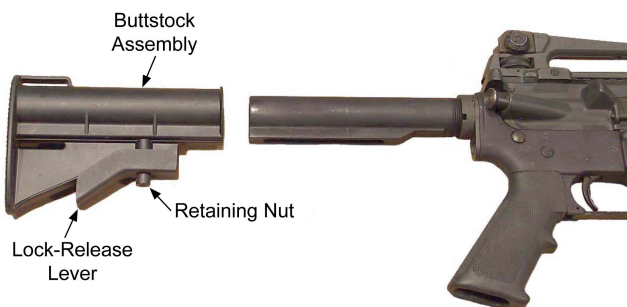

Figure 2-3. M4 / M4A1 CQBW Collapsible Buttstock Assembly
- (4) Buttstock Assembly. The buttstock assembly houses the action spring, buffer assembly and extension assembly. The M4 and M4A1 CQBW have a collapsible buttstock. Refer to Figure 2-3.